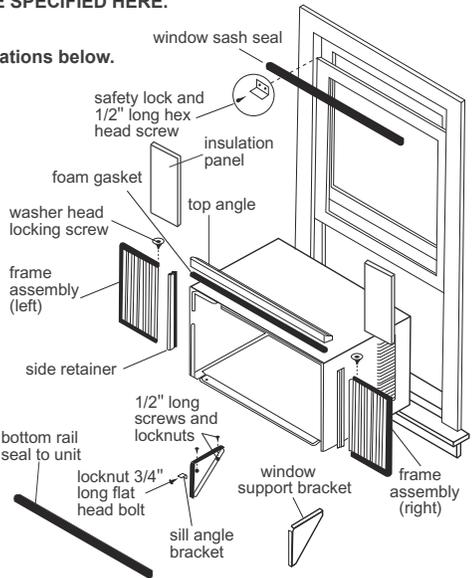

FIG.1
- 1. Check window opening size:** the mounting parts furnished with this air conditioner are made to install in a wooden sill double-hung window. The standard parts are for window dimensions listed above. Open sash to a minimum of 19-1/4" (489mm). (FIG.1)